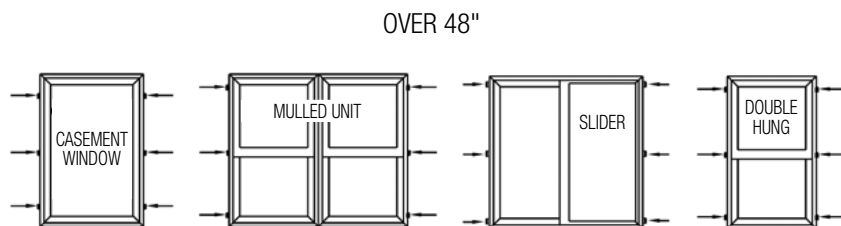

FIG. 14
- J) Check the unit for square using diagonal measurements. Shim window to ensure the unit is square. Casement units over 48" in height must have shims placed at the center to prevent bowing of jambs. **Note: Use flat shims.** (Fig. 14)
- K) **For double hung units: To ensure proper window operation and performance, it is critical to shim at the check rail to ensure the frame widths are equal at the top, center and bottom of the unit. (Fig. 14)**
- M) Make sure jambs, head and sills are straight. Additional shimming may be required. (Fig. 14)